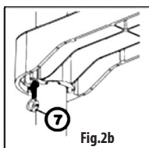
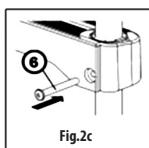

Fig. 2b
Fig. 2c
Slide the treads along stiles so that the holes for screws fit well with the holes in stiles. Put the nut (7) (Fig. 2b) into the groove made in tread lower surface and fix the tread with screws (6) (Fig. 2c).